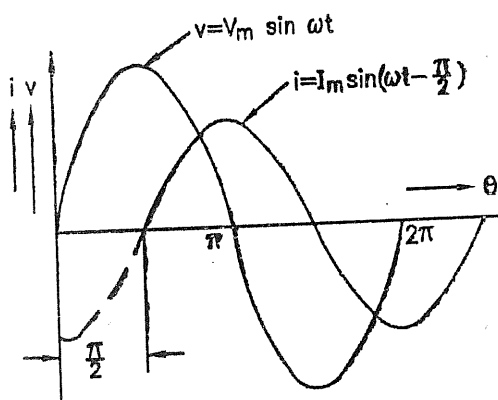
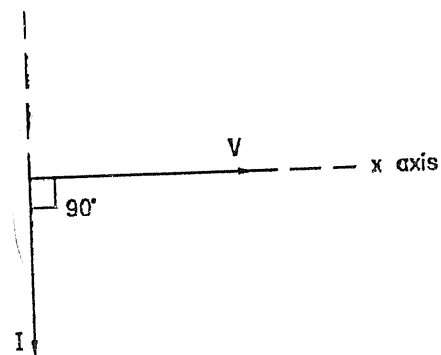

FIG. 2.33 : WAVEFORMS
FIG. 2.34 : PHASOR DAIGRAM
- Graphical and phasor representation of these quantities are shown in Fig. 2.33 and Fig. 2.34 respectively.